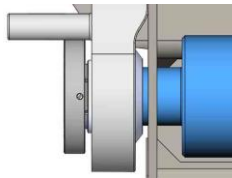

Figure 9
- Slide the idler roll into the deck frame from the left-hand side of frame. Slide the roller in so that the end of the shaft is aligned with the outside of the bearing and collar, Figure 9